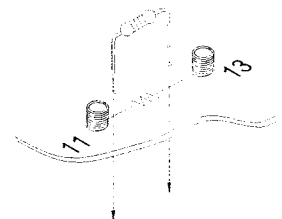

Figure 4
- Mount the resistor by bending its leads and inserting them, from the top of the cardboard panel, through the holes next to schematic symbol. (See Figure 4.)